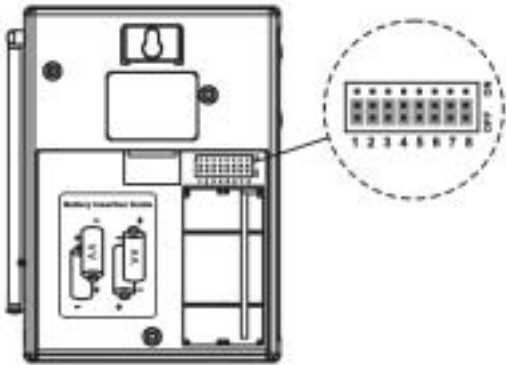

Figure 12. ID Code Setting
There are eight (8) positions allow the user to set up 256 ID codes (**00000000 ~ 11111111**) by mini jumpers. Please refer to Figure 12 to set up the ID Code.